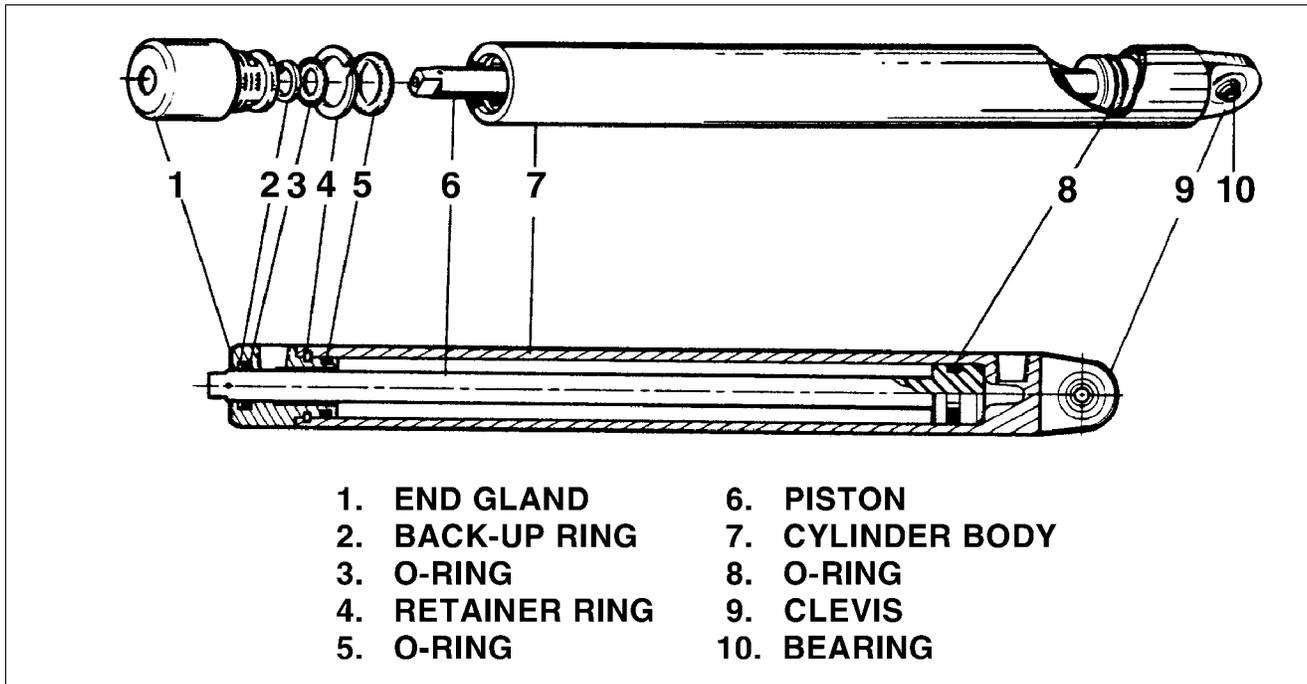

Figure 32-15. Main Gear Actuating Cylinder
- (3) Cleaning, Inspection and Repair of Main Gear Actuating Cylinder
- (4) Assembly of Main Gear Actuating Cylinder (Refer to Figure 32-15).